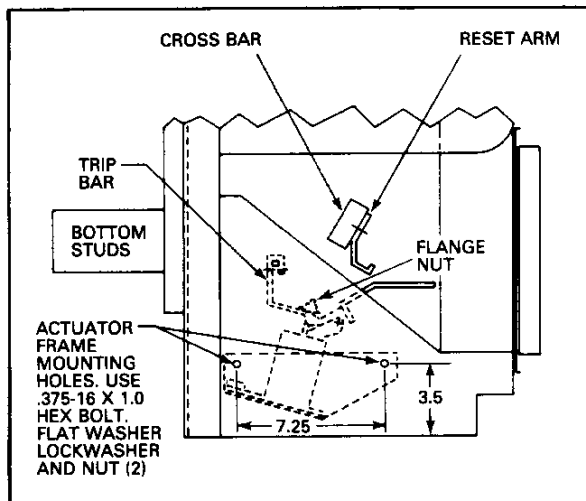

Fig. 10 Left Side View
3. Locate the two (2) .50 holes on the left side of the breaker frame. See Fig. 10. Attach the actuator base to the left side using .375-16 x 1.0 hex bolt, lockwasher, flat washer and nut. The two (2) actuator leads should be located between the left inside frame and the actuator housing.
4. Move the trip paddle assembly so that the paddle is located under the left side of the flange nut (viewing from the front) and secure the trip assembly to the bar. See Fig. 10.
5. Viewing the breaker from the front, remove the .375-16 x 1.5 hex bolt located on the far left side of the cross bar. Place the reset arm between the bolt head and lockwasher (Fig. 10), tighten the bolt being positive that the locking clip is in its previous position.
7. Use a 28 Vdc source close breaker, check tripping and resetting functions of actuator, repeat numerous times for verification. It may be necessary to bend reset arm for positive resetting of actuator, Fig. 10.